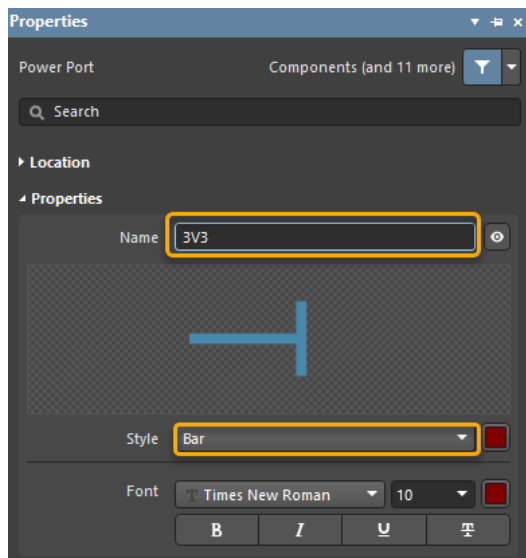

Figure 15. Power port
11. With the Power Port on your cursor, hit the **TAB** key to change the properties, as shown in Figure 15.